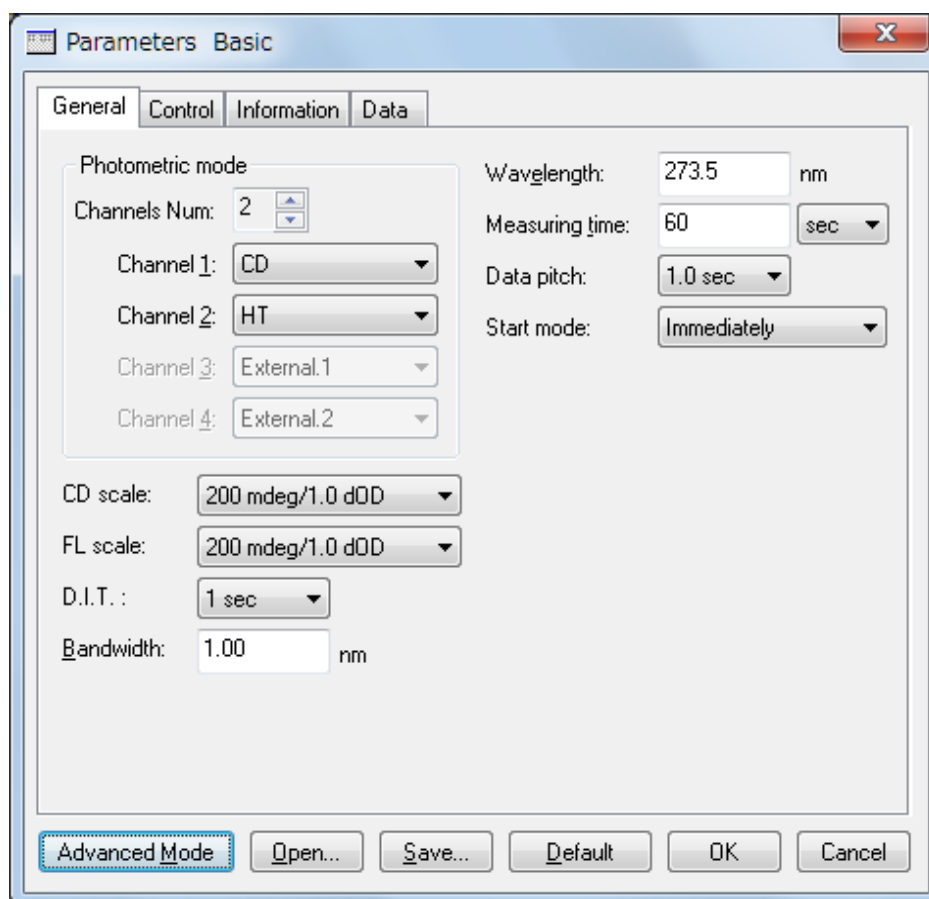

Figure 5.2 [General] tab in [Parameters] dialog box
- (1) Select [Parameters...] from the [Measure] menu (or click the  button) to display the dialog box in Fig. 5.2. The [Parameters] dialog box contains the [General], [Control], [Information], and [Data] tabs. The [General] tab is open by default in the [Parameters] dialog box. The page can be changed by clicking each tab at the top of the dialog box.
- (2) The parameters can be switched between two modes: Basic mode and Advanced mode. In Basic mode, the choice of parameters is partially limited. In Advanced mode, each parameter is specified individually. The parameters described in this section are specified in Basic mode. To switch between Basic and Advanced modes, click the <Basic Mode> or <Advanced Mode> button.
- (3) Specify the measurement parameters in the [General] tab as follows.
The following example describes how to specify the wavelength. Click the [Wavelength] text box to edit the wavelength. When the cursor appears in the text box, values can be entered. Type the desired wavelength (in the example in Fig. 5.2, 291 nm) in the text box to set the wavelength.